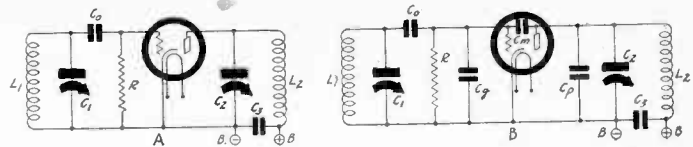

FIG. VIII-6
The tuned grid, tuned plate oscillator is shown in Fig. VIII-6, the circuit at (A) showing it in the usual form and that at (B) in the form it assumes when the tube capacities are explicitly indicated. In these drawings  $C_3$  is supposed to be so large that its reactance is entirely negligible.  $C_o$  may or may not be so large that its reactance can be disregarded.